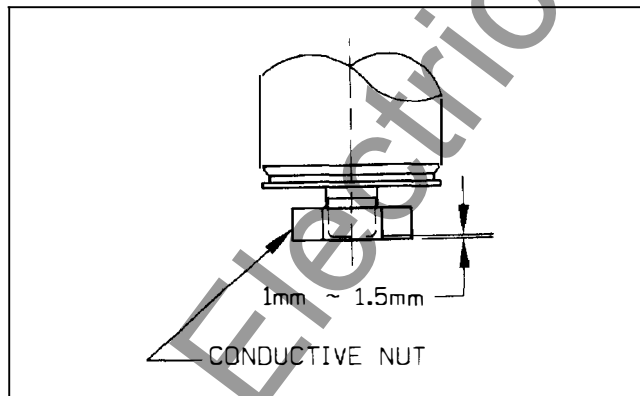

Figure 13. Installation of the Conductive Nut
Mounting the New Interrupter (Figure 13)
- 1) Remove the conductive nut from the vacuum interrupter being replaced and attach it to the new vacuum interrupter as shown in **Figure 13**.